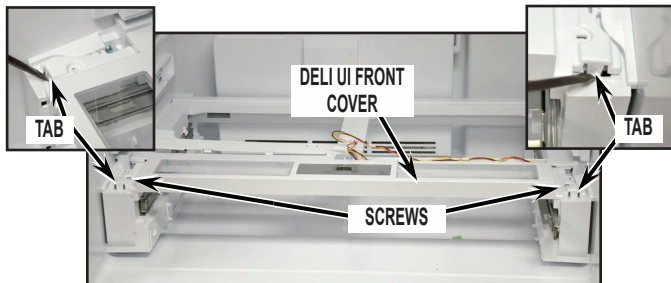

FIGURE 20
7. Remove 2, 1/4" hex head screws (one on the left side and one on the right side) and release the 2 locking tabs to remove the deli UI front cover. See *Figure 20*.